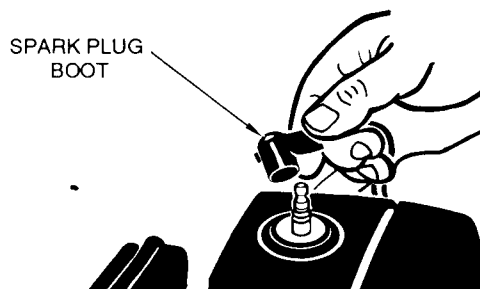

Figure 8-7A
1. Remove spark plug boot with a twist and pull motion. (Figure 8-7A)